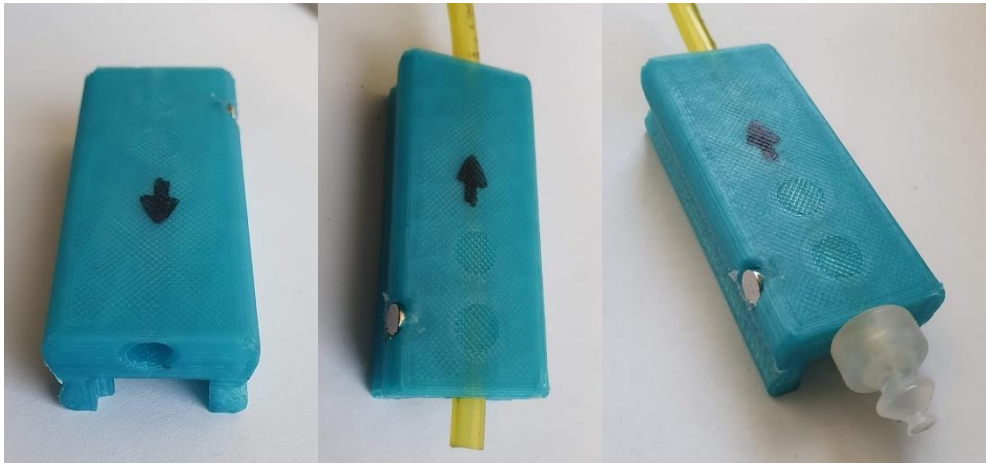

Figure 32- Hose Attached to Suction Cup Rail
15. Insert the hose into the rack through the hole indicated by the arrow and add the bellows suction cup (Figure 32).